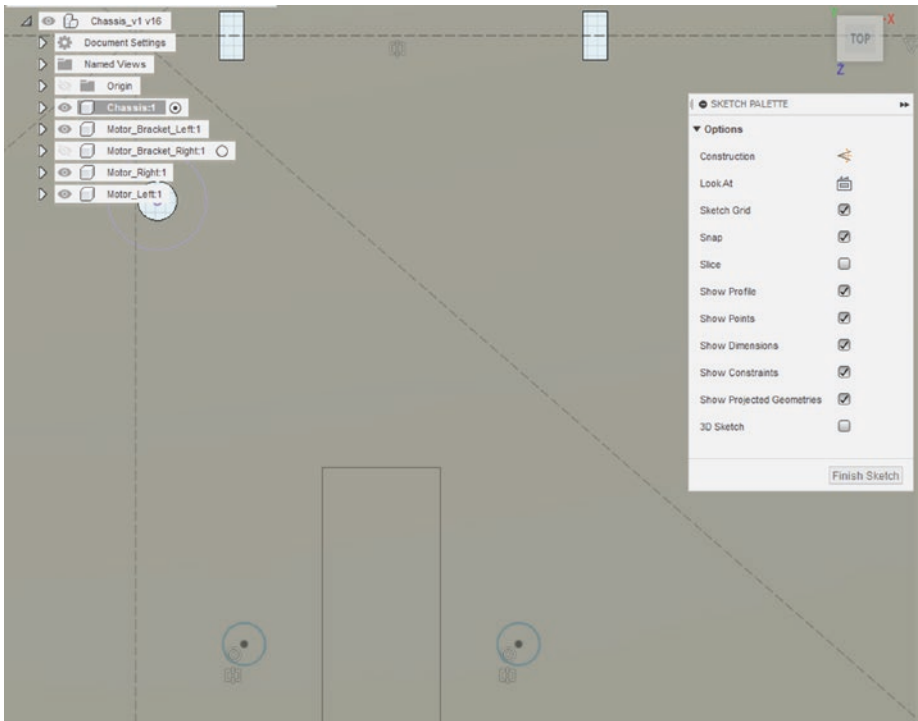

Figure 6-70. *Mirror these holes for the other motor bracket*
42. Mirror these two holes to the other side of the chassis. See Figure 6-70.